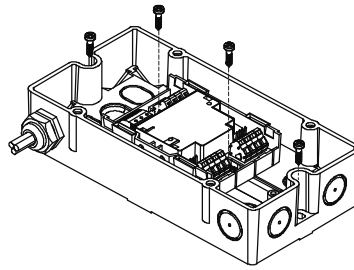

Fig. 3
- Installation outside a switching cabinet or a control unit: use FDCH221 housing (Fig. 3).
3. Use two screws (M 4) to fit the housing on a plane surface (Fig. 3). Distance between holes: 182.0 ± 1.0 mm.
2. Fix module with two screws in the housing (Fig. 3)